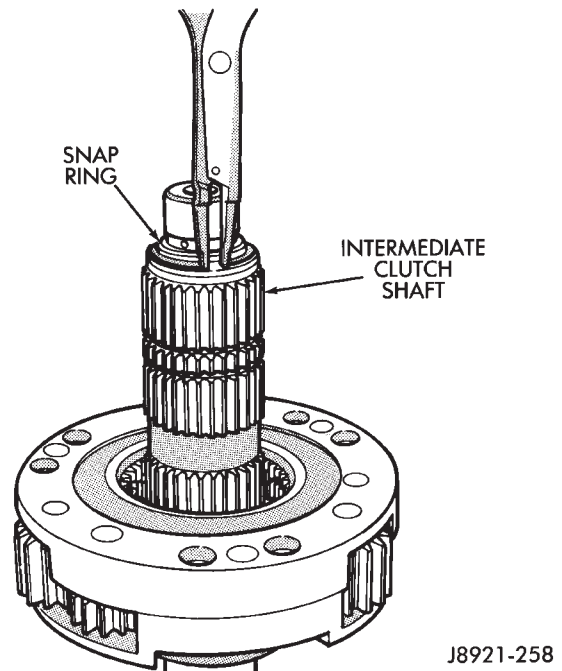

Fig. 61 Installing Clutch Shaft Snap Ring
- (38) Install clutch shaft snap ring (Fig. 61).